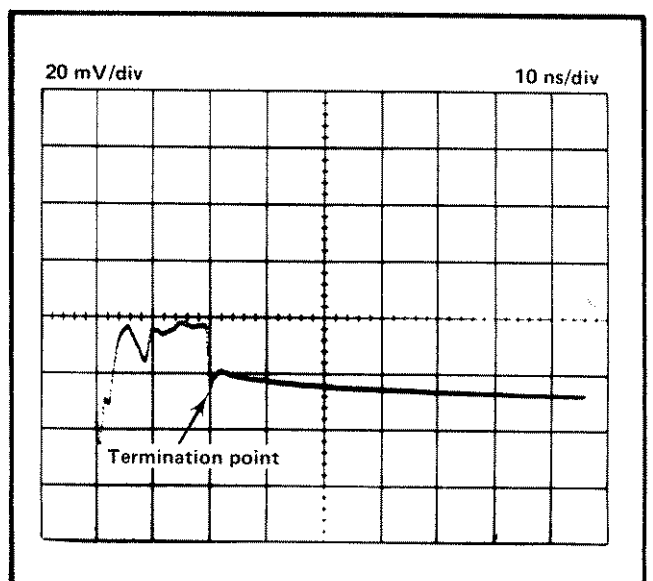

Fig. 2-4. Display with Test Line terminated and increased vertical deflection of the oscilloscope.
15. Terminate the end of the Test Line in 50 Ω . Change the Type 3S2 mV/Div to 20 and note the point of termination on the display. See Fig. 2-4.